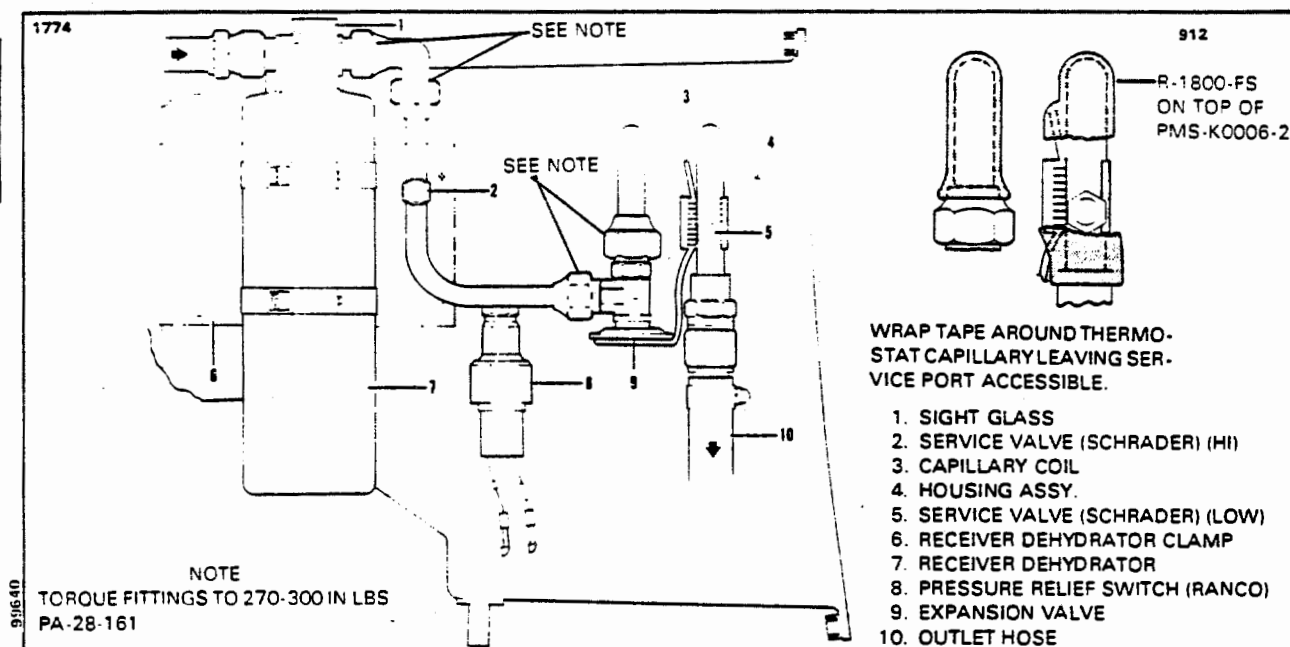

Figure 14-13. Components Installation
Torque the fittings (see Table XIV-II and Figure 14-13).
- a. Install the expansion valve in the inlet line of the evaporator core by coupling the related fittings. (Seal all couplings with sealant applied to tube flanges only.) Torque fittings per Table XIV-II and Figure 14-13.